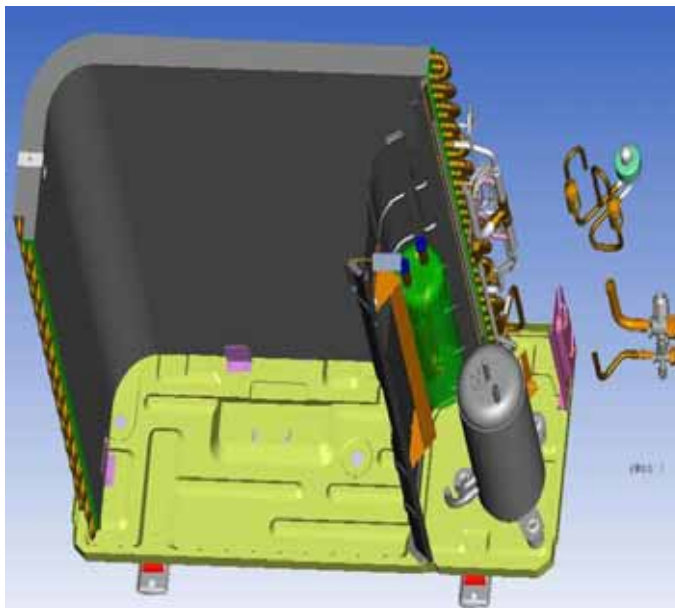

Fig.13
- Unsolder the pipe connected to the liquid valve **[See Fig.13]**
[See Fig.13]